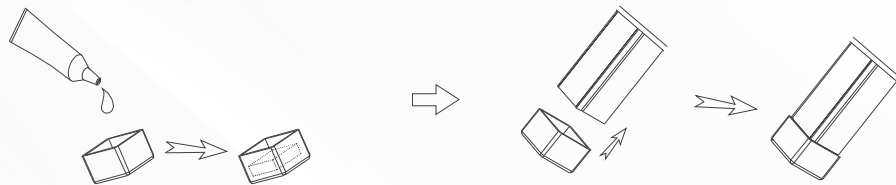
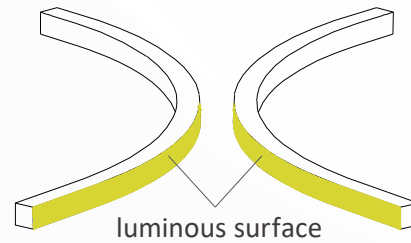

Figure 4
Figure 7
2. Fill the plug with glue, and put the neon flex into the plug, installation completed, as shown in Figure 4.
5. Put the wire encased into the plug, and repeat Figure 4 gluing steps, and then insert the neon flex into the plug, installation completed, as shown in Figure 7.